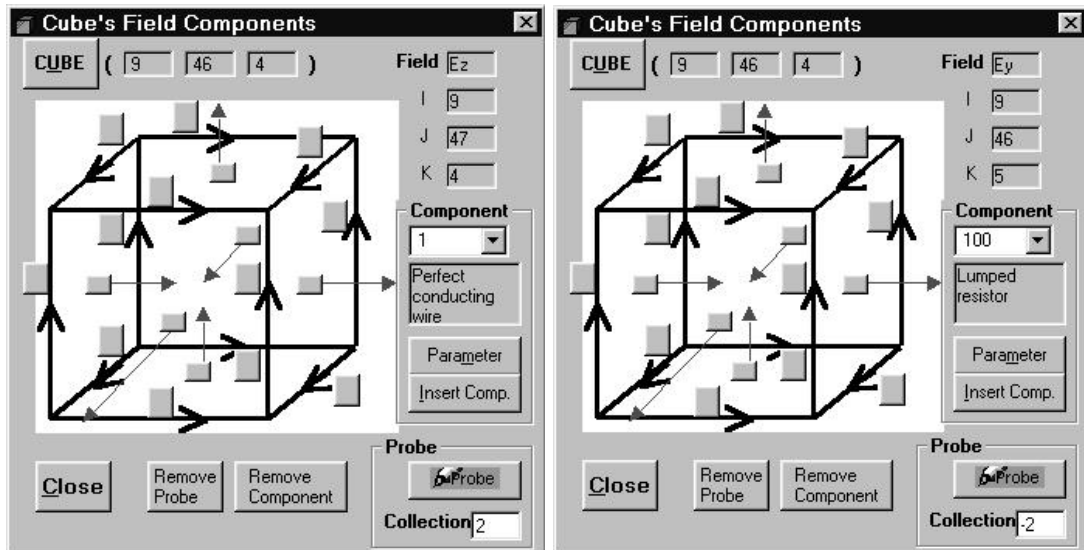

Figure A8.17 – Attaching 'probe' command to field components.
- The procedure to instruct the software to print the voltage across the pulsed resistive voltage source is shown in Figure A8.17.
- After going through the steps in Figure A8.17, the following quantity will be saved in the output file at fixed intervals: $V = -E_z(9,6,4)\Delta z$